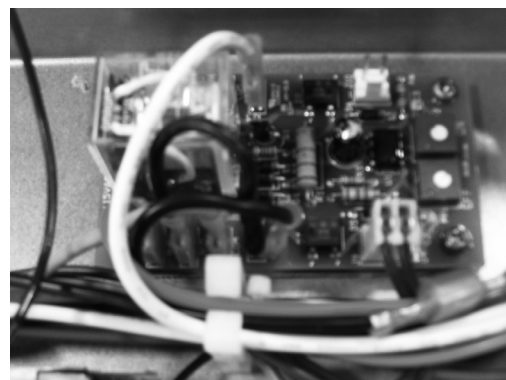

Figure 2. New Timer Board
2. Install the new timer board supplied with this kit in the same position as the old board (**Figure 2**). Connect the wires as follows: